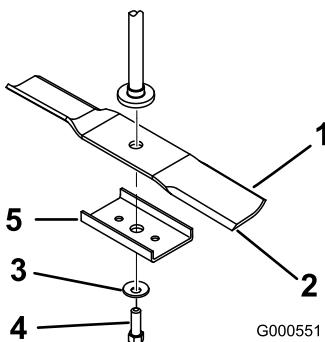

Figure 57
- Remove the blade bolt, the curved washer, the blade stiffener, and the blade from the spindle shaft (Figure 57).
2. Install the blade stiffener, the curved washer (cupped side toward the blade), and the blade bolt (Figure 57).
1. Install the blade onto the spindle shaft (Figure 57).